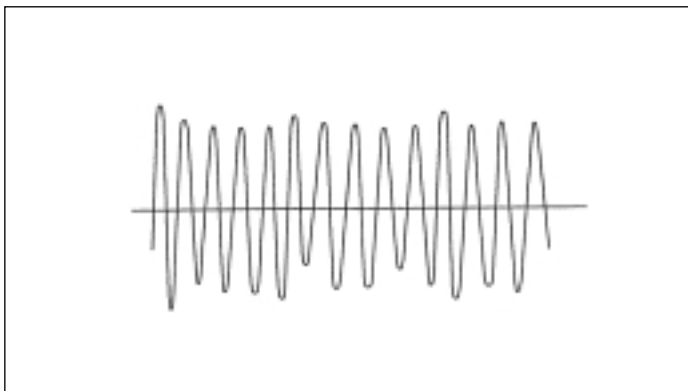

Figure 15. Normal VFM 3100 Frequency Waveform
- With fluid flow in the pipe, observe signal waveform on oscilloscope. Waveform should be similar to that shown in Figure 15.
- a. If waveform is similar to Figure 15, the sensor is good. If there is no output from the electronic module, the electronic module input stage has failed. The entire electronic module should be replaced.
- With flow in the pipe, use an oscilloscope to observe the sensor output. The scope probe impedance must be 10 megohms or greater. The waveform should be similar to that shown in Figure 15. When the preamplifier is not in the circuit, the minimum signal required for the sensor is about 2.5 mV.
If the waveform is similar to Figure 15, the sensor is functioning. If there is no output, replace the sensor.